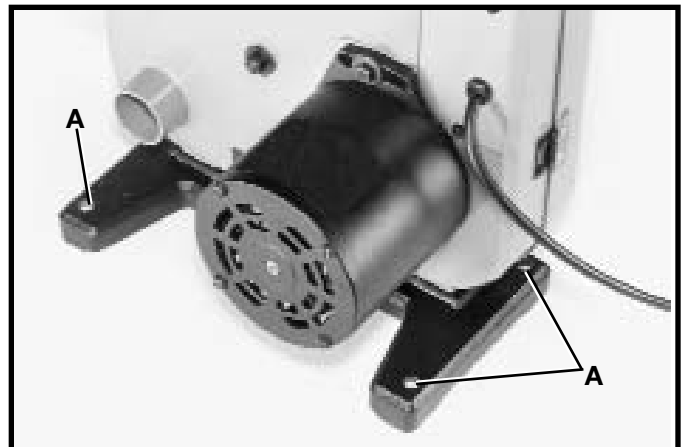

Fig. 14
⚠ WARNING The machine must be secured to a supporting surface. Four holes are provided in the band saw base for this purpose, three of which are shown at (A) Fig. 14.